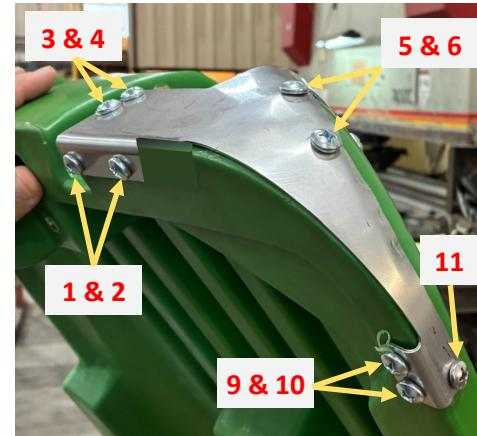

Figure 1
2. Fit the stainless steel corner shield (LANPSP405R) into position as shown in Figures 1 & 2.
3. Install eight larger screws (LAN030114048) in the order indicated in Figures 1 & 2. Hold UP and IN when installing screws 1 & 2. Hold the small end UP and IN when installing screws 5 & 6. Then press down firmly while installing screws 7 & 8.